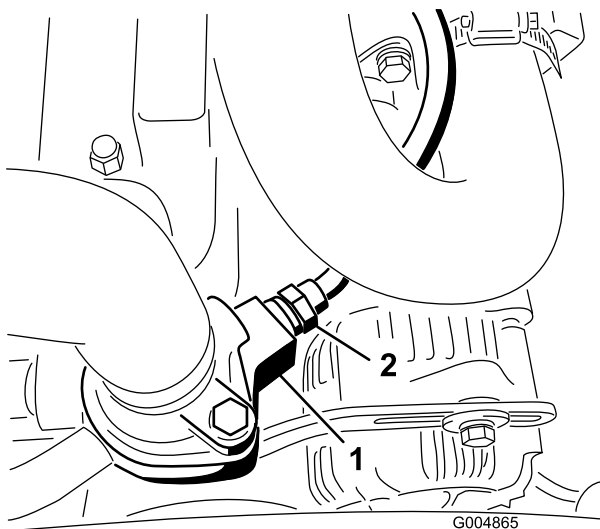

Figure 23
19. Disconnect the wire and remove the switch from the right side of the engine thermostat housing (Figure 23).